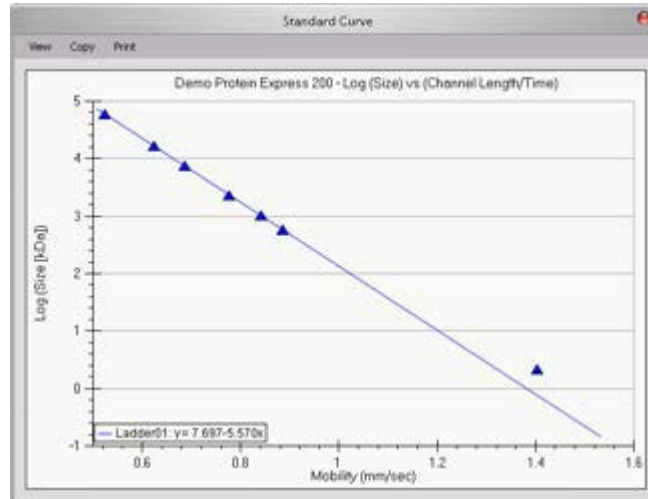

Figure 7. Standard Curve - Protein
- 5 The ladder is analyzed (see Ladder Analysis on page 282) and a standard curve of migration time versus mobility is plotted from the ladder by interpolation between the individual protein size/migration points. The standard curve derived from the data of the ladder well should resemble Figure 7.